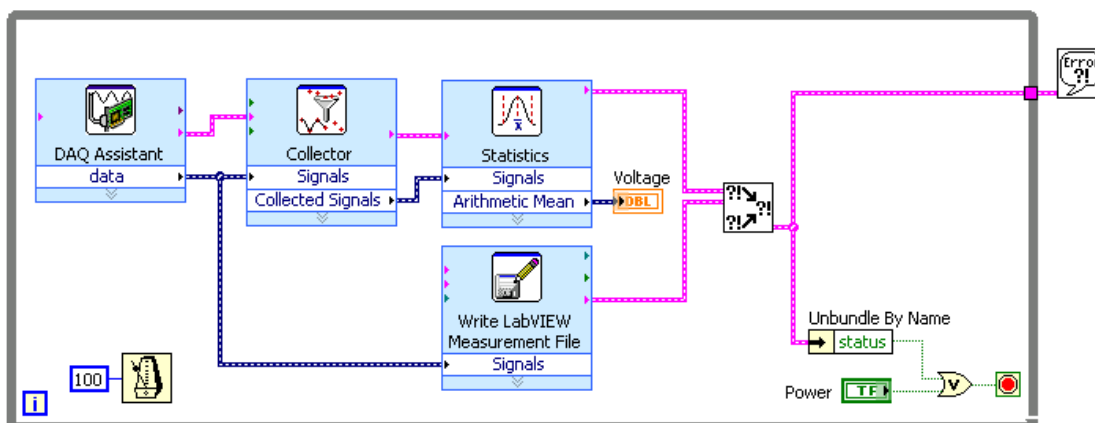

Figure 10.11
2. Modify the block diagram to log the acquired data as shown in Figure 10.11.